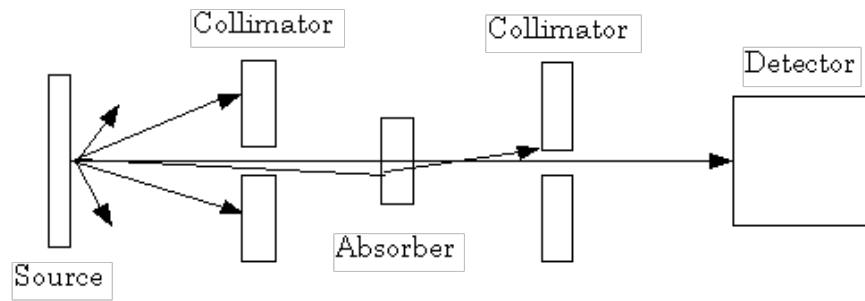

Figure 15: A diagram of Gamma-ray Spectroscopy
- (c) There should be two lead bricks with holes in them at the apparatus. Use these bricks as collimators (see Figure 15 below). The first collimator passes only photons that strike the absorber nearly perpendicular to its face. The second collimator is needed to absorb the gamma rays that have undergone small angle scattering from the absorber. If the angle is small enough these gamma